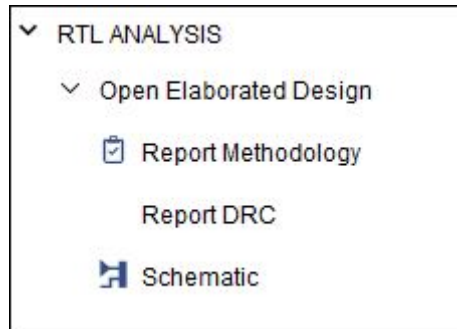

Figure 7: RTL Analysis
- 2.13 Expand the *Open Elaborated Design* entry under the *RTL Analysis* tasks of the *Flow Navigator* pane and click on **Schematic** as shown in **Figure 7**. Click OK in the *Elaborated Design* dialog box. The design will be elaborated and a block diagram of the design is displayed.